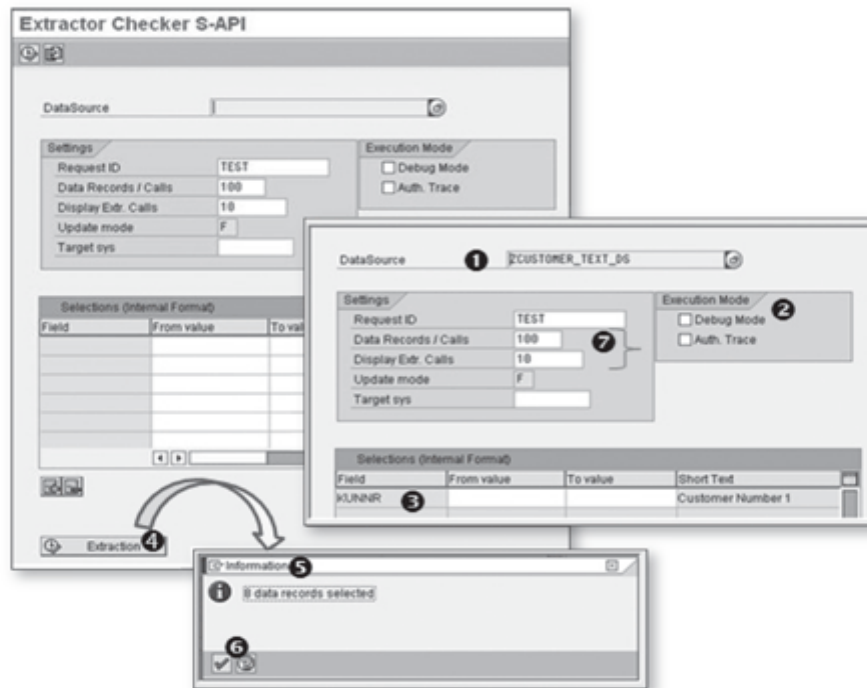

Figure 8.12 Extractor Checker Initial Screen
After a DataSource is created in the source system, you may want to check its accuracy. For this, SAP has provided a tool called the Extractor Checker. Start Transaction RSA3 in SAP ERP to bring up the Extractor Checker S-API screen shown in Figure 8.12.
Enter the name of the DataSource you want to test in the DataSource field, as shown in ❶ of Figure 8.12. You have two options (❷) for the execution mode: Debug Mode, which helps in starting the debugger and takes you through step-by-step execution of the underlying DataSource program; and Auth. Trace, which is used for tracing authorization while accessing various tables and objects used by the underlying DataSource program.